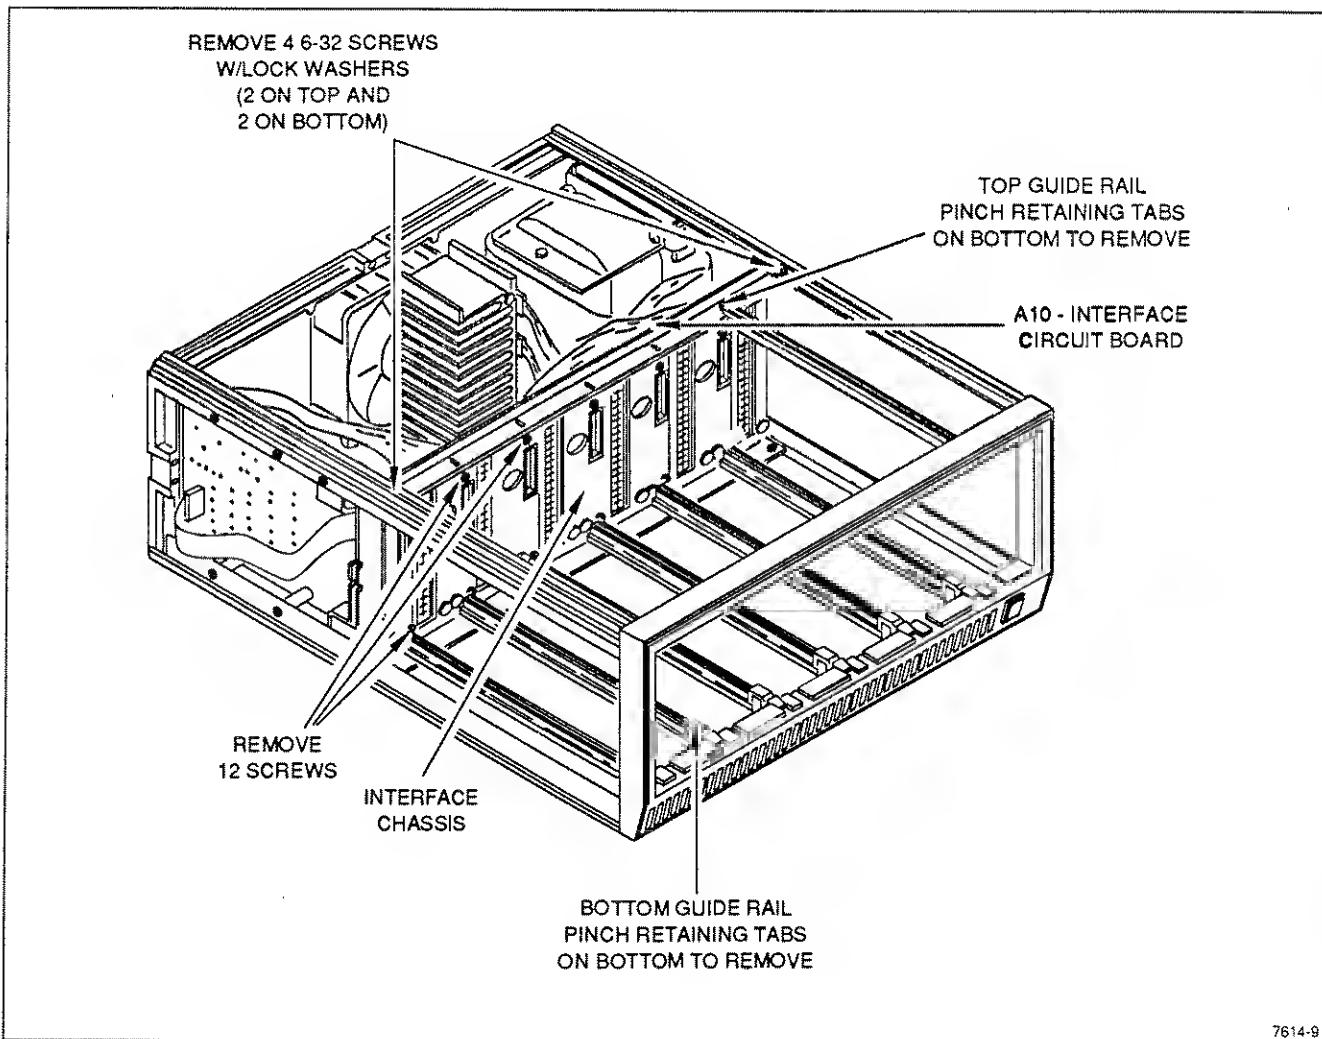

Fig. 5-2. Guide rail removal.
- a. Remove the top and bottom guide rails as shown in Figure 5-2.
- b. Remove the 12 screws that secure the Interface circuit board to the Interface chassis as shown in Figure 5-2.
- c. Remove the 4 screws (with lockwashers) that secure the Interface chassis to the frame rails as shown in Figure 5-2.